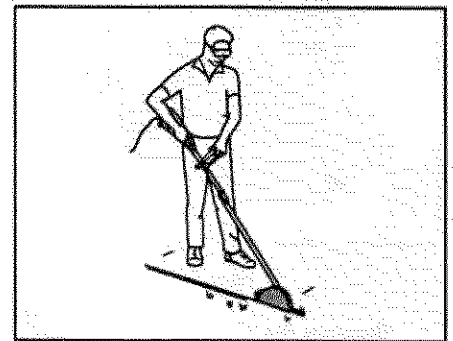

Fig. 7
3. The illustration below shows the typical operating position. Edge along paths, driveways, gardens (Fig. 7).